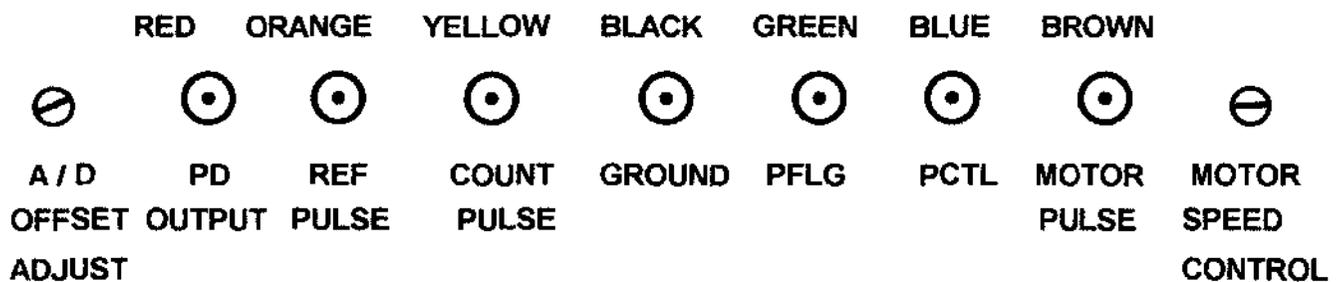

Figure 7-3. These are seven test jacks and two trimpots on the right side of the ellipsometer base.
- b. Observe the count pulses at the yellow test jack (Figure 7-3) while manually rotating the analyzer drum slowly. The first count pulse should start within $\frac{1}{2}^\circ$ of **0°** and have a duration of no less than **0.4°** or greater than **1.2°**. During the period of the pulse, the voltage should be less than **0.2 volt**, and jump to at least **4 volts** at the end of the pulse. The pulse should repeat at **5°** intervals of the analyzer rotation (a total of **72 pulses** during one revolution of the (drum). Missing and abnormal pulses are an indication of a possible defect in the encoder.
- b. Connect the measuring probe of a voltmeter (that reads 10V or 20V, dc) to the PD Output (red) test jack (and the common probe to the black common jack in Figure 7-3). Adjust the Zero Offset trimpot Figure 7-5 (A) as needed so that the voltmeter reads 0.0 volts, dc.
- c. Connect a voltmeter common probe to the ground (black) test jack in Figure 7-3, and connect the measuring probe to the PD Output (red) test jack. Slowly rotate the analyzer drum until the voltmeter reads 10V, dc.
This adjustment is just to the right of the Motor Pulse (brown) test jack (Figure 7-3). The motor speed control trimpot is preset at the factory, but may require a fine adjustment if the electronic chassis is replaced, to ensure accurate measurements of very thin films. A silicon substrate with a silicon oxide film layer of around 200Å (20 nm) is recommended for this adjustment.